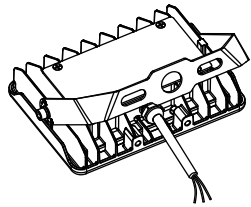

figure 3.2
Step 2:Tighten the brackets and screws. ( figure 3.2)